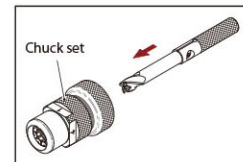

Fig. 2-5
- ✘ When assembling with the chuck set, put it in from the rear of the chuck set. (Fig. 2-5)